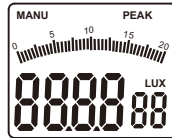

Figure 3-1-2B
- Press and hold "REL/PEAK" key for one second, the device will enter the peak value measurement mode, "PEAK"LCD will appear on the top right position of the LCD interface, and at the same time, "MENU" will appear on the top left position of the LCD interface (as shown in figure 3-1-2B);